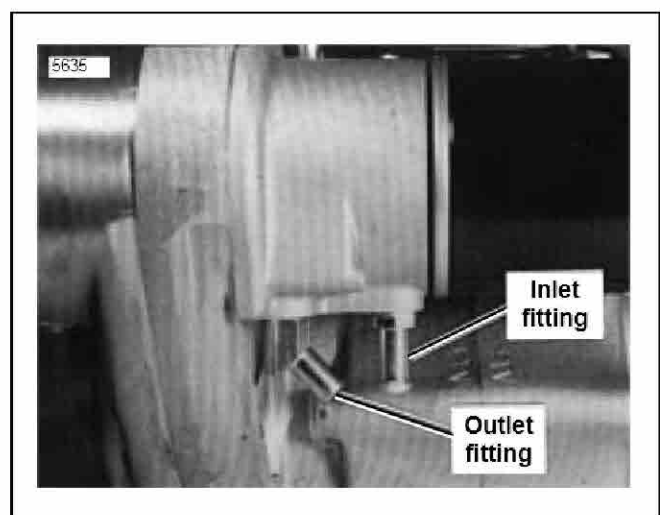

Figure 6. Oil Filter Mount - Late 1984 to 1985 (Alternator Equipped)
3. See Figure 6. Connect 9 in. hose to inlet fitting on oil filter mount and outlet fitting on oil cooler. Secure with small clamps from kit.